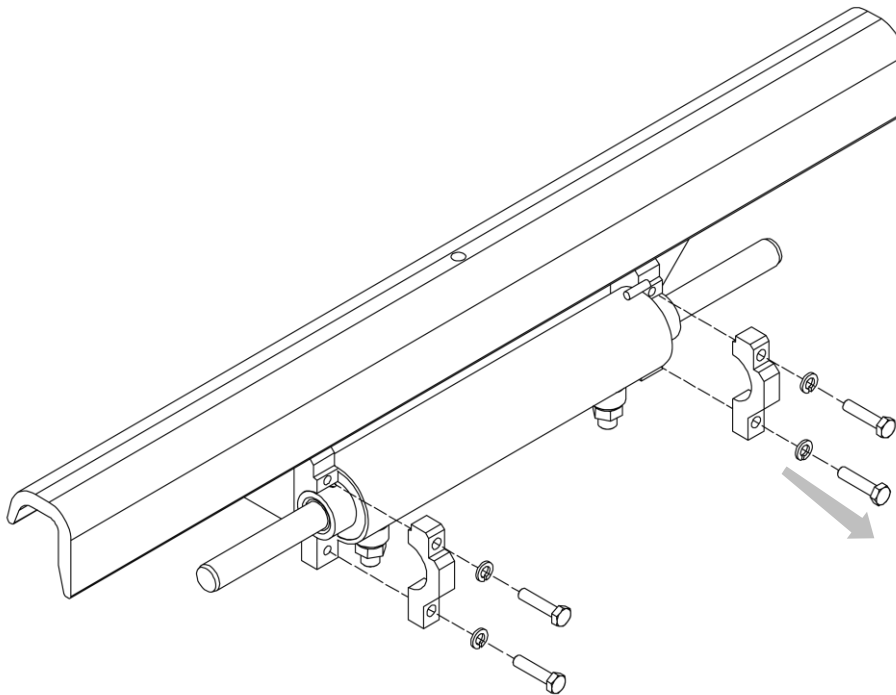

Figure 39
4. Use *Figure 39* as a guide.